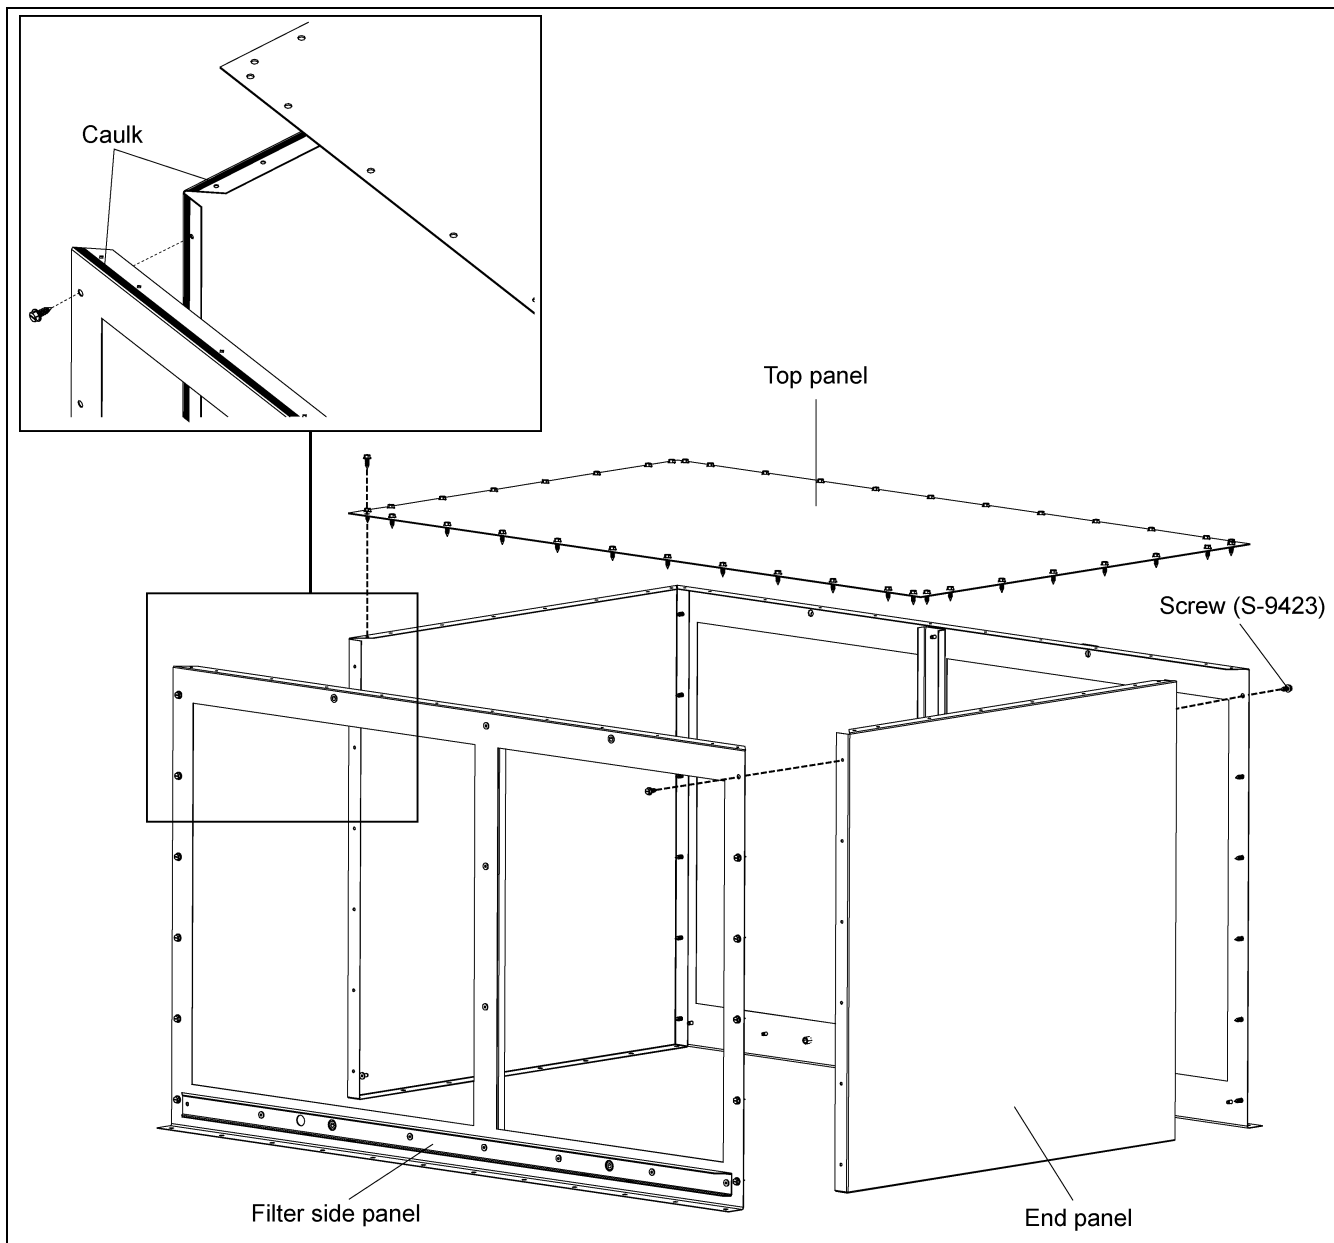
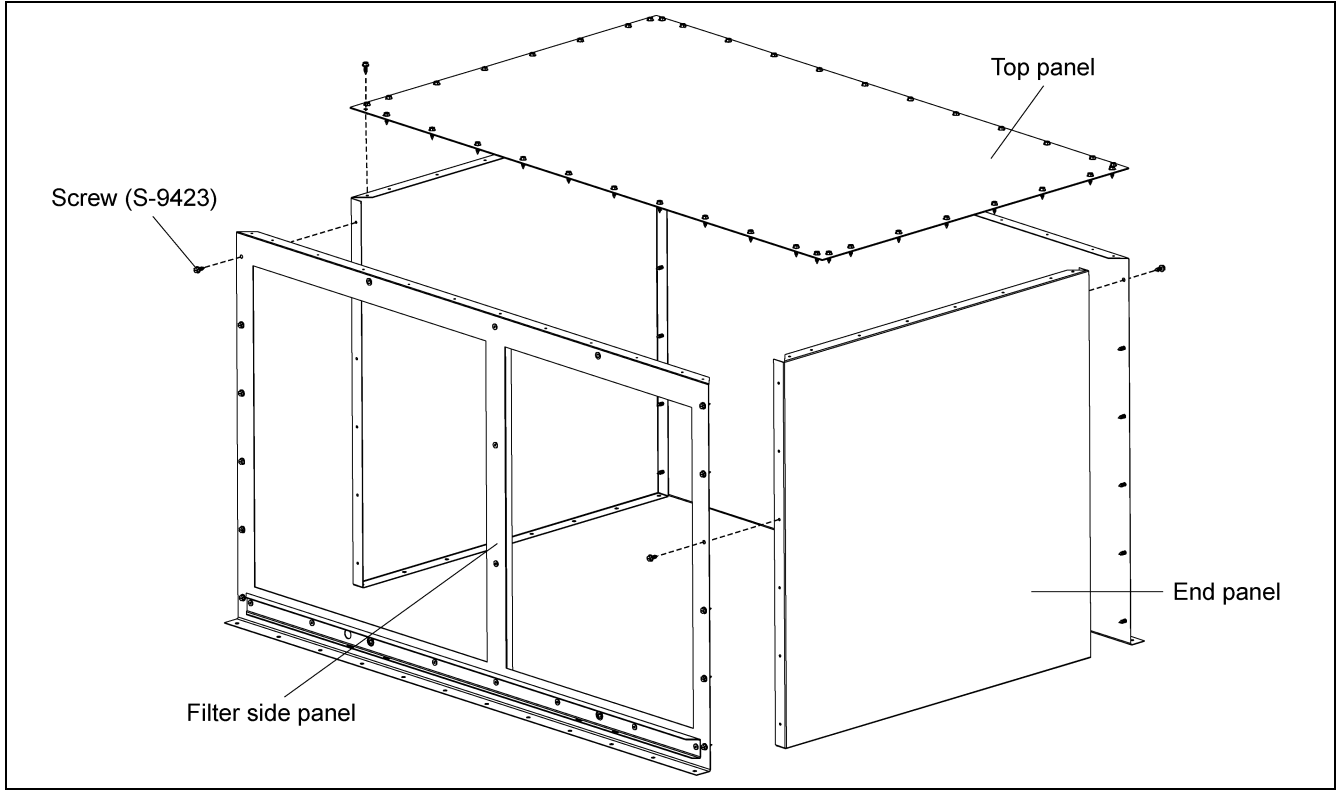
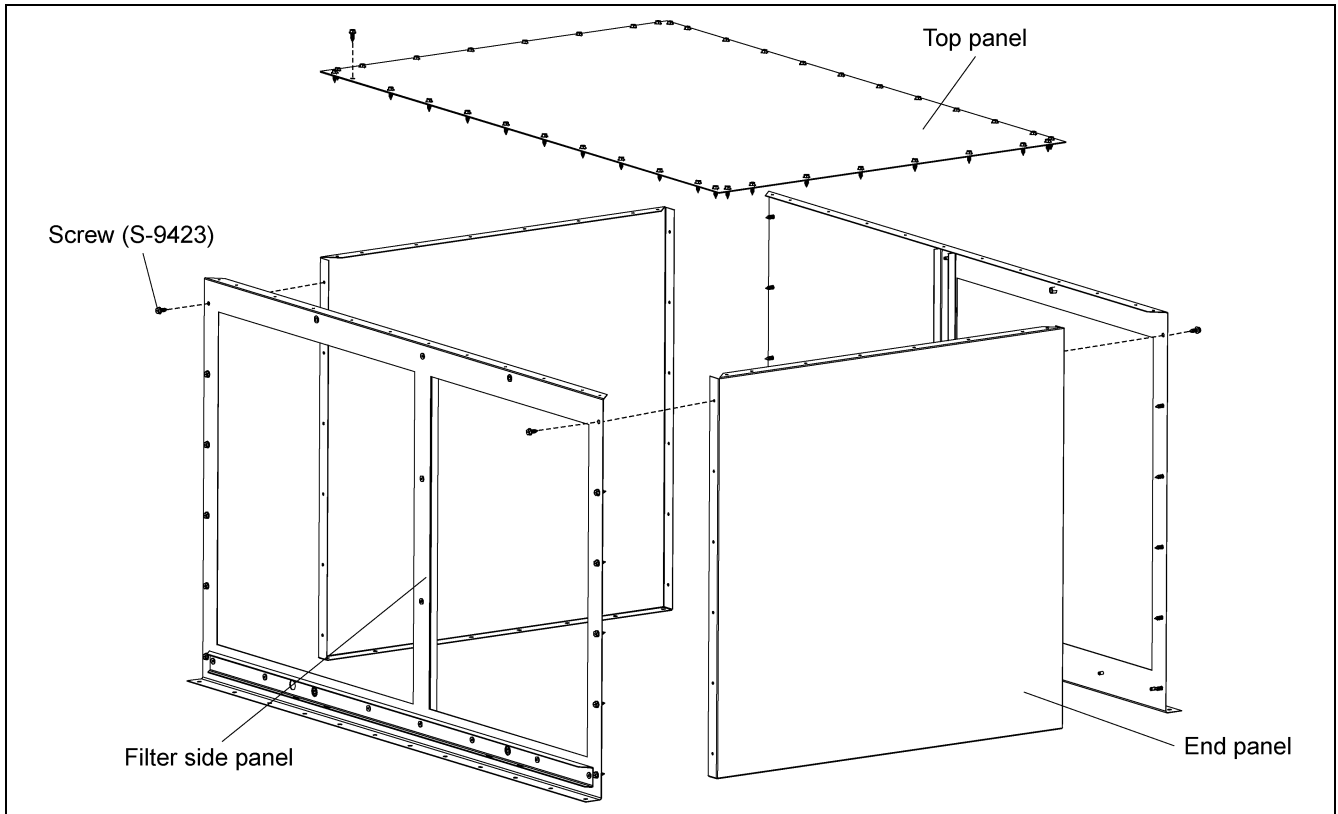
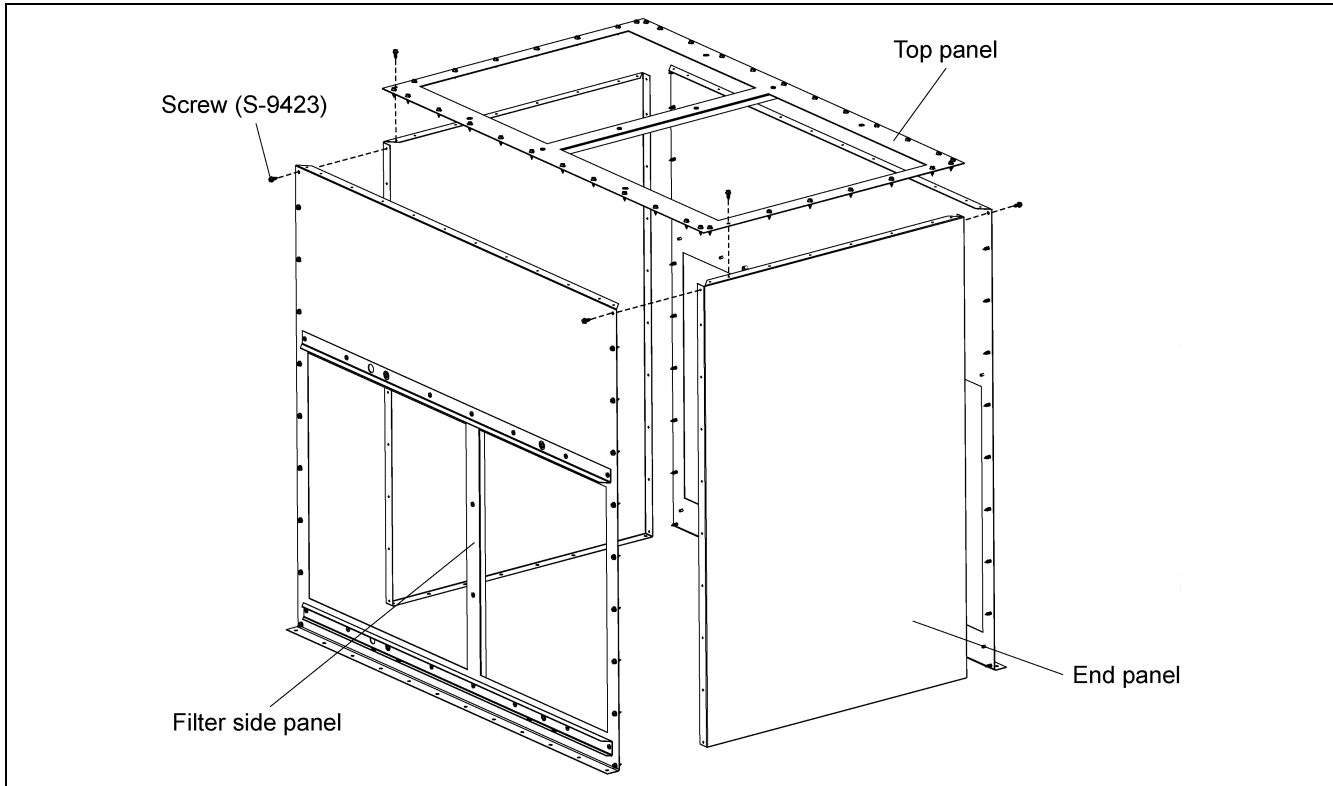

Figure 1B 30-0804 Exploded View
Figure 1C 30-0802 Exploded View
Figure 1D 30-0803 Exploded View
Figure 1E 30-0806 Exploded View
1. Apply one strip of caulk along the top and side flanges of the end panels to the outside of the holes as shown in Figure 1B.
2. Assemble the side and end panels with the screws provided (S-9423). (See Figure 1B below, Figure 1C, Figure 1D on Page 6 and Figure 1E on Page 7.)
3. Apply caulk completely around the top flange of the side and end panels. The caulk should be placed to the outside edge of the flange as shown in Figure 1B.